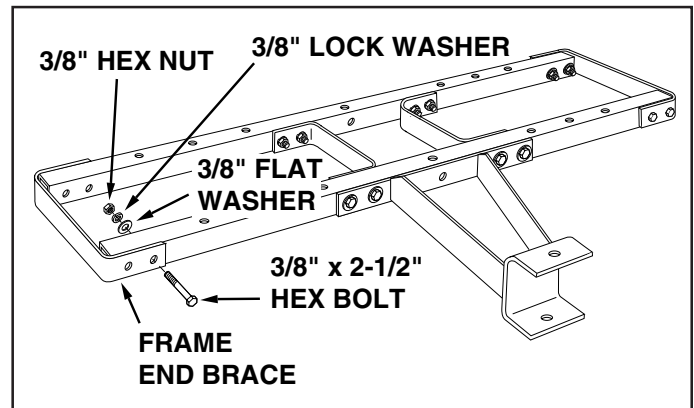

FIGURE 4
5. Assemble a frame end brace over each end of the frame tubes using eight 3/8" x 2-1/2" hex bolts, 3/8" flat washers, 3/8" lock washers and 3/8" hex nuts. See figure 4. **Tighten all bolts** at this time.